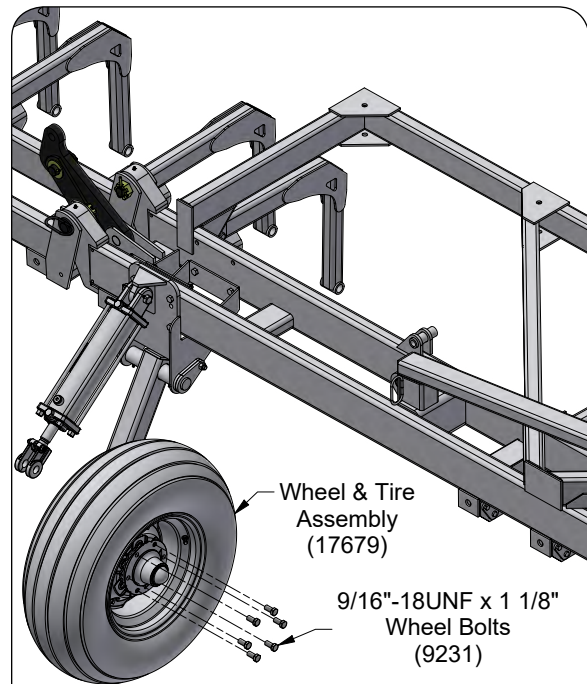

FIG. 2-34
4. Mount the tire and wheel assemblies (17679SM) to the wing wheel assemblies with the valve stem facing outward from the hub and the 9/16"-18UNF wheel bolts (9231) located on the hub (FIG. 2-34). Torque wheel nuts according to "Wheel Torque Chart" in MAINTENANCE Section.